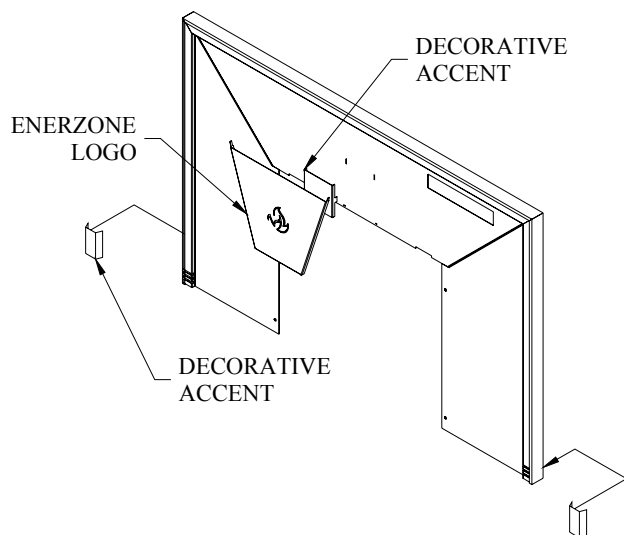

Figure 30
- 6- Insert the decorative accent clips behind the slots at the bottom of the edge of the faceplate and the Enerzone logo.(Figure 30)